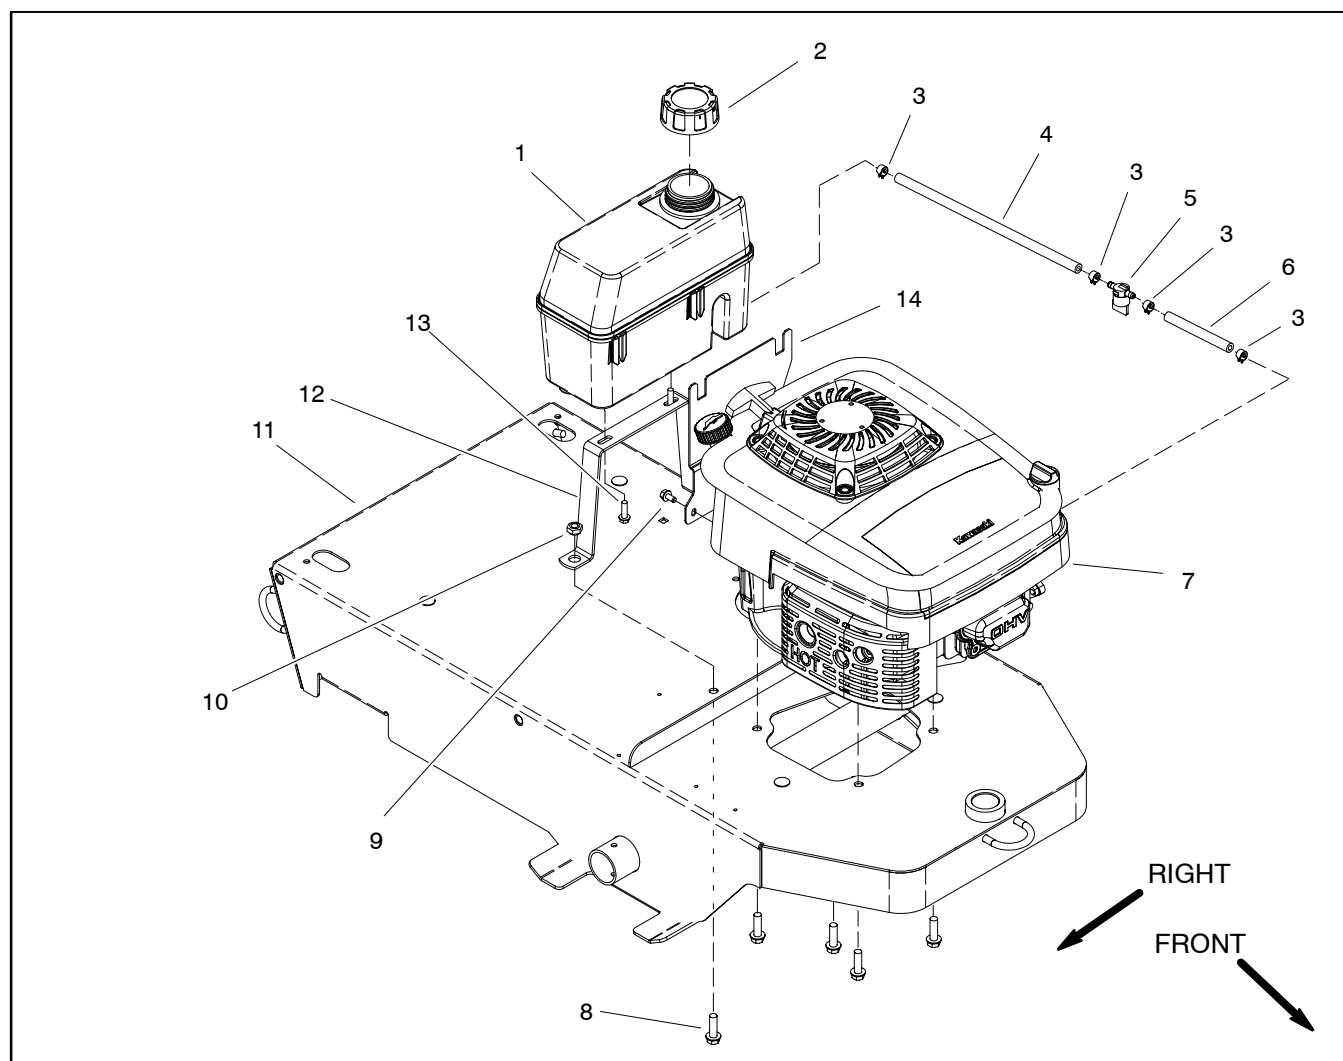

Figure 4
### Fuel Tank Removal (Fig. 4)
6. Remove fuel tank using Figure 4 as a guide. If fuel tank bracket (item 14) removal is necessary, remove ground wire from bracket.
### Fuel Tank Installation (Fig. 4)
2. Install fuel tank to frame using Figure 4 as a guide. If ground wire was removed from fuel tank bracket (item 14) secure ground wire to bracket with screw.